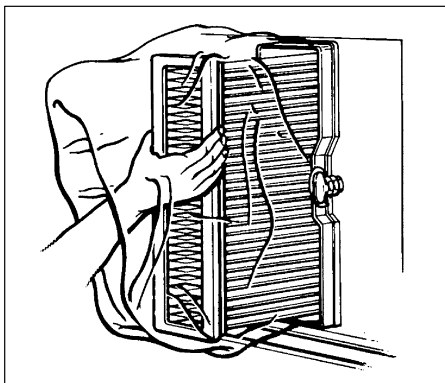

Fig. 5-2 'Clean change' option
- d. Clamp the polythene bag over the filter module as shown in Fig. 5-2.